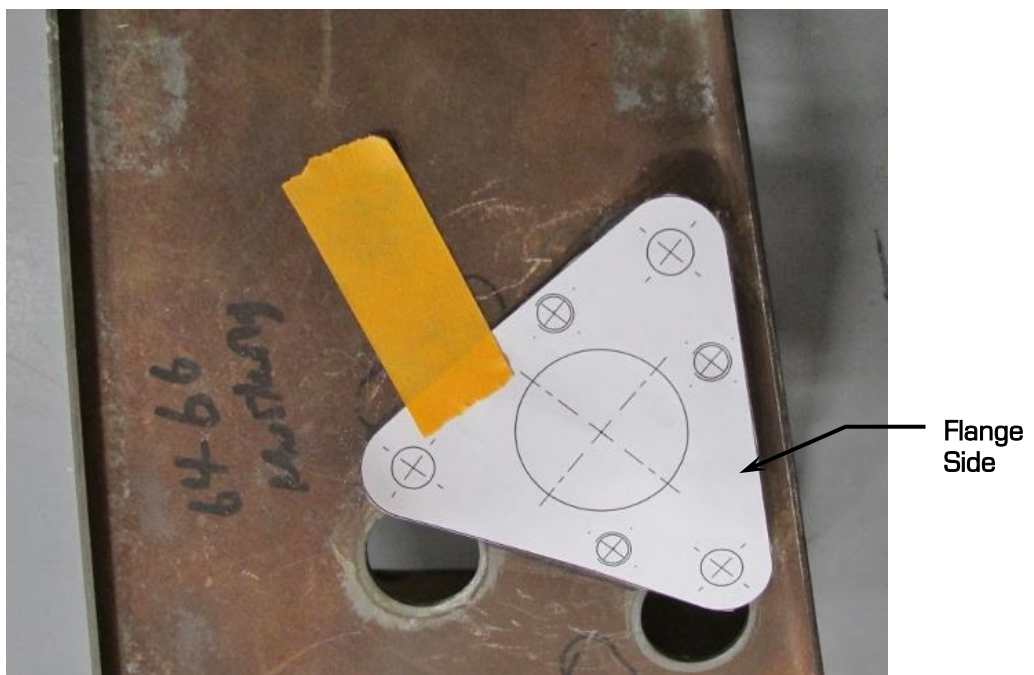
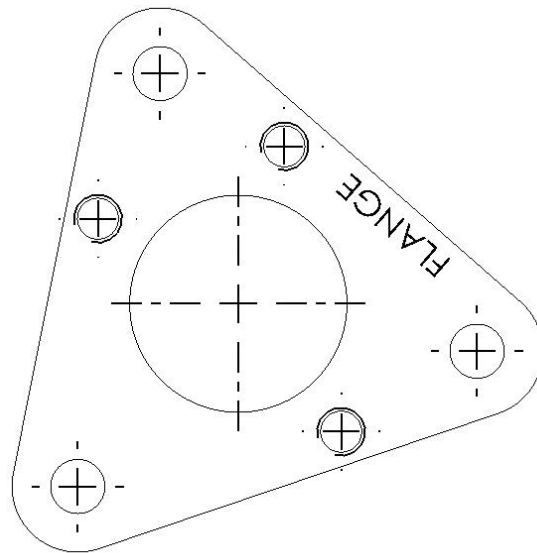

Figure 3 - Wiper Motor Spacer Template
Figure 10 - Cut out Template
6. Cut out the perimeter of the wiper motor adapter template in Figure 10 on page 7. Locate the template on the mounting bracket so the large center hole lines up with the center hole in the bracket. Keep one of the straight edges (Labeled "FLANGE") on the template parallel to the flange on the right side of the mounting bracket. (Figure 3).